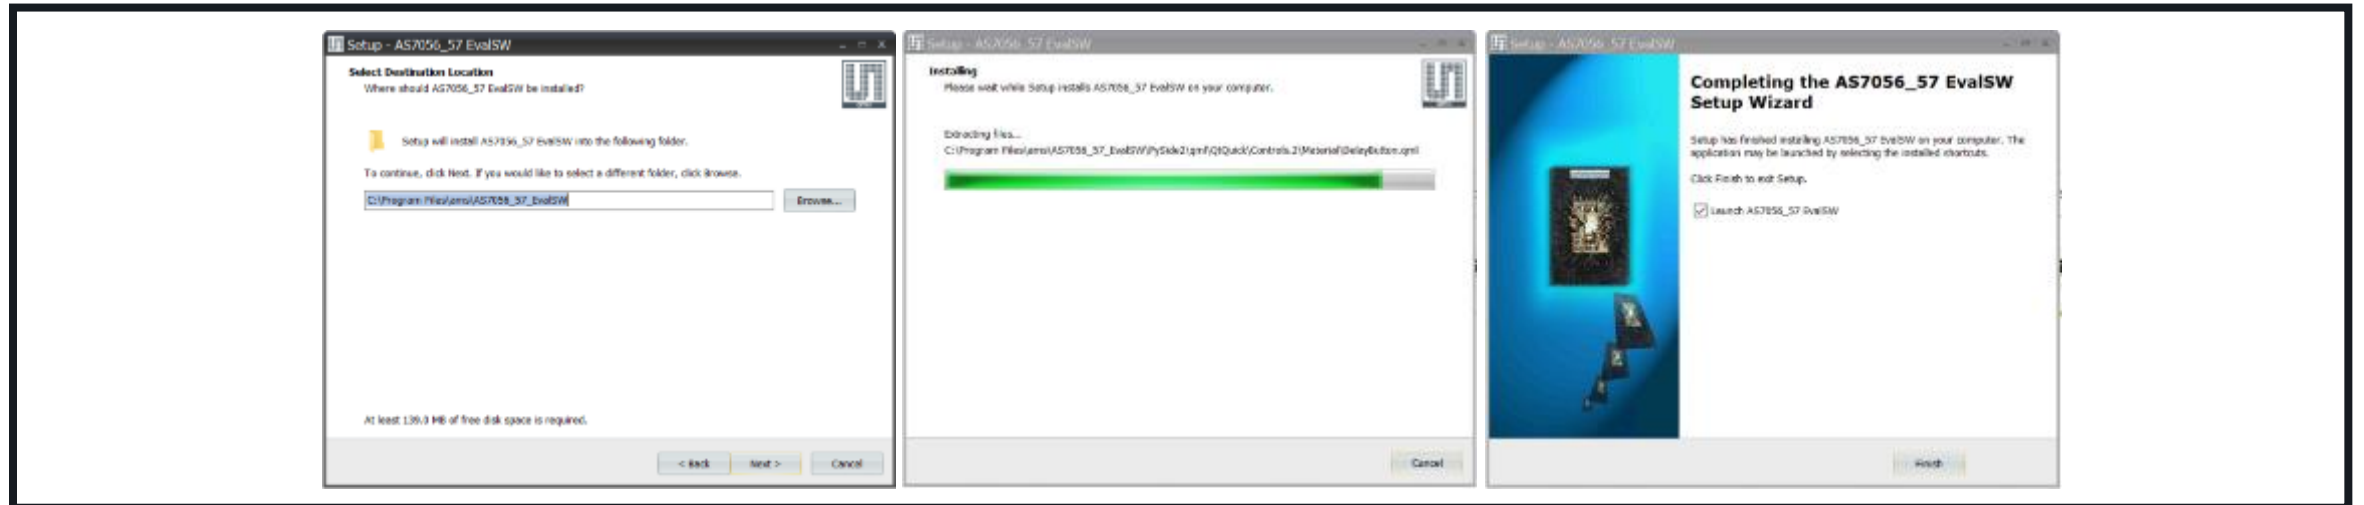

Fig. 4: AS7056/57 Software Installation steps
- ❑ To install, start the installer executable and follow the instructions as shown in *Fig. 4* below (left to right).